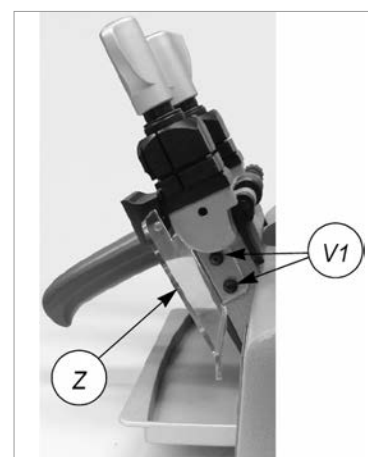

Fig. 28
**ATTENTION: DANGER OF MECHANICAL FINGERS CRUSHING IN THE CASE OF A BROKEN PROTECTION (Z).**
- 2) Loosen the two screws (V1) and remove the swarf protection (Z) (Fig. 28).